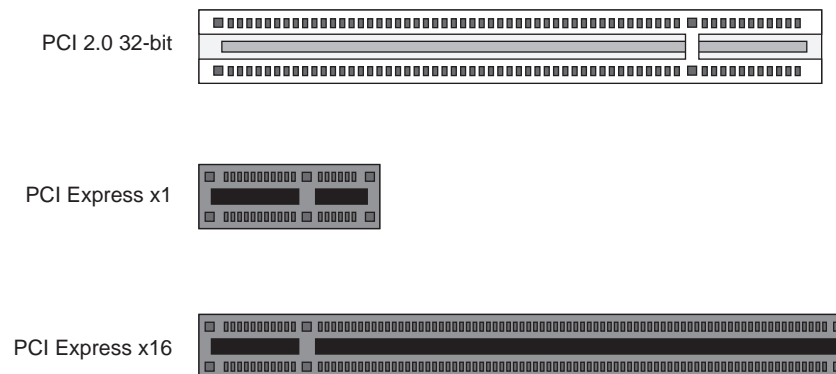

Figure 6-1 Comparison of PCI/PCI-X Connector with PCI Express Connectors
- PCIe hardware connectors are not compatible with PCI/PCI-X, (see Figure 6-1)